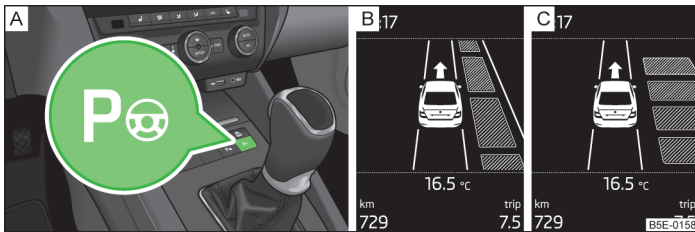

Fig. 133 System button/displays in the instrument cluster display
When the system is activated, **P** the warning light **P** » Fig. 133 on page 136 - **A** lights up in the button.
- Press the button **Pe** » Fig. 133 **once**.
The following is shown in the information display of the information cluster » Fig. 133 - **B**.
- Press the button **Pe** **twice** » Fig. 133.
The following is shown in the information display of the information cluster » Fig. 133 - **C**.
- Press the button  » Fig. 133 on page 136 **once**.